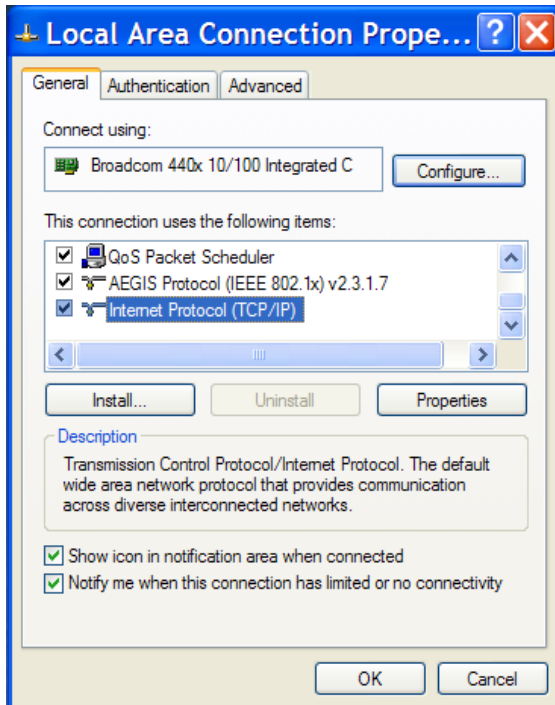

Figure 2.16 – Local Area Connection Properties
Step 3: Right click on the icon labeled Local Area Connection. In the menu that follows select the option at the bottom of the menu labeled Properties. The Local Area Connection Properties window will appear. Scroll down to and highlight the 'Internet Protocol (TCP/IP)', then click the button labeled 'Properties'. (Figure 2.16)